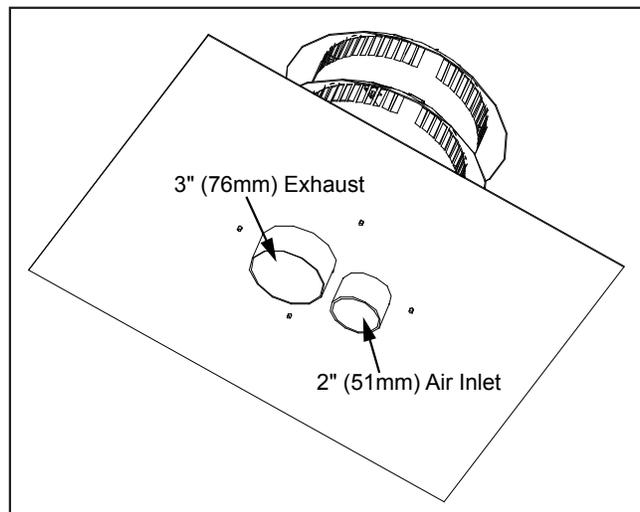

Figure 40: Vertical Vent Cap Underside.
7. At the top of the chimney, apply a bead of Mill-Pac Black sealant to the Ø3" (76mm) pipe of the vent terminal (refer to Figure 40). Slide the flex liner onto the vent terminal and secure with three (3) sheet metal screws evenly spaced.
8. Place a bead of high temperature silicone on the intake collar of the vent terminal (refer to Figure 40). Slide the Ø2" (51mm) flex intake liner over the collar, secure the flex liner with three (3) sheet metal screws evenly spaced.